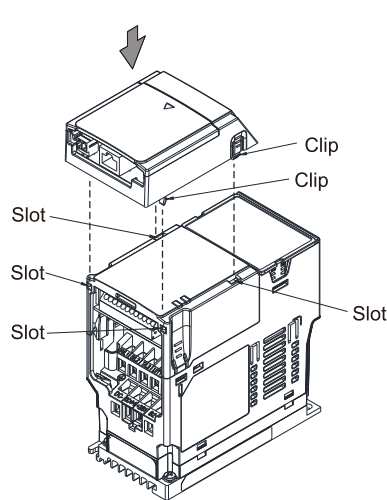

Figure 3-17
8. Assemble the mounting box for the option card: Aim the four clips of the mounting box for the option card at the slots on the upper cover of the motor drive, and then press downward to have the four clips engage the slots, as shown in the Figure 3-17.